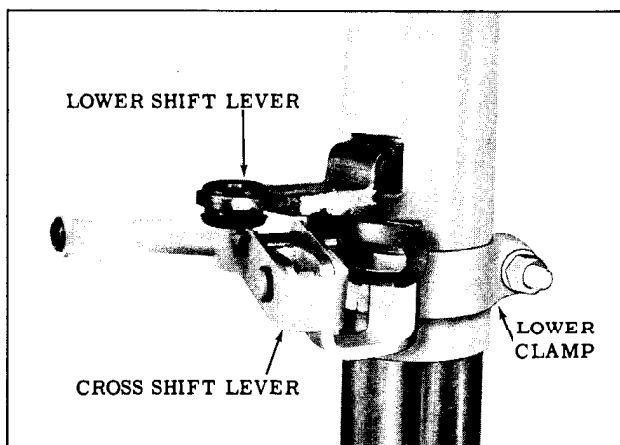

Fig. 4-78 Syncro-Mesh Shift Levers
2. On cars equipped with Syncro-Mesh, disconnect rod from cross shift lever. (Fig. 4-78)